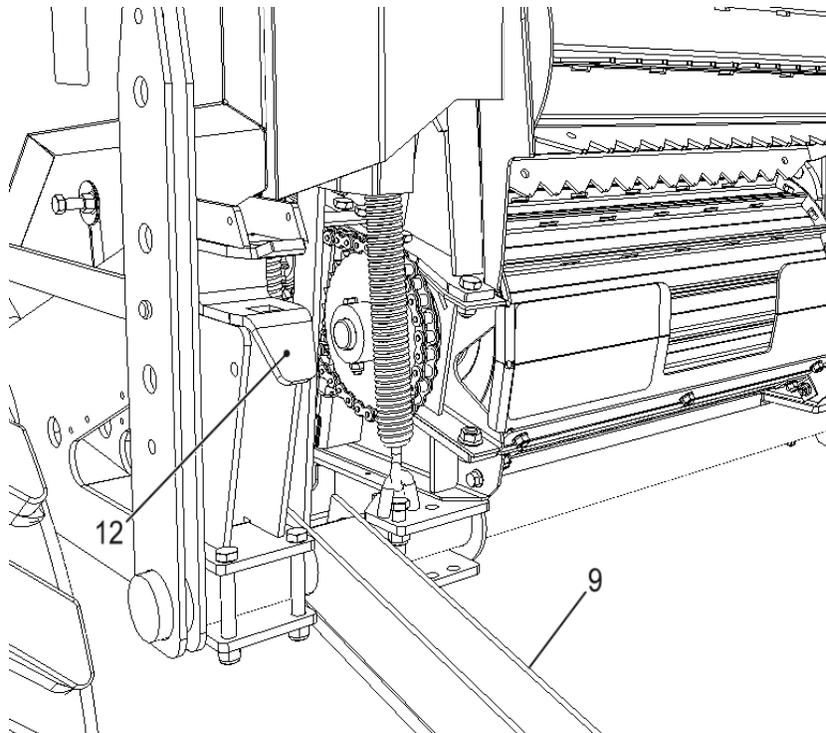

Figure 50 Header attach points
### STEP 2 - FIGURE 50
Move the harvester towards the header slowly while ensuring the pivots receptacles (item 12) are aligned with the header brackets (item 13, Figure 50 Header attach points).